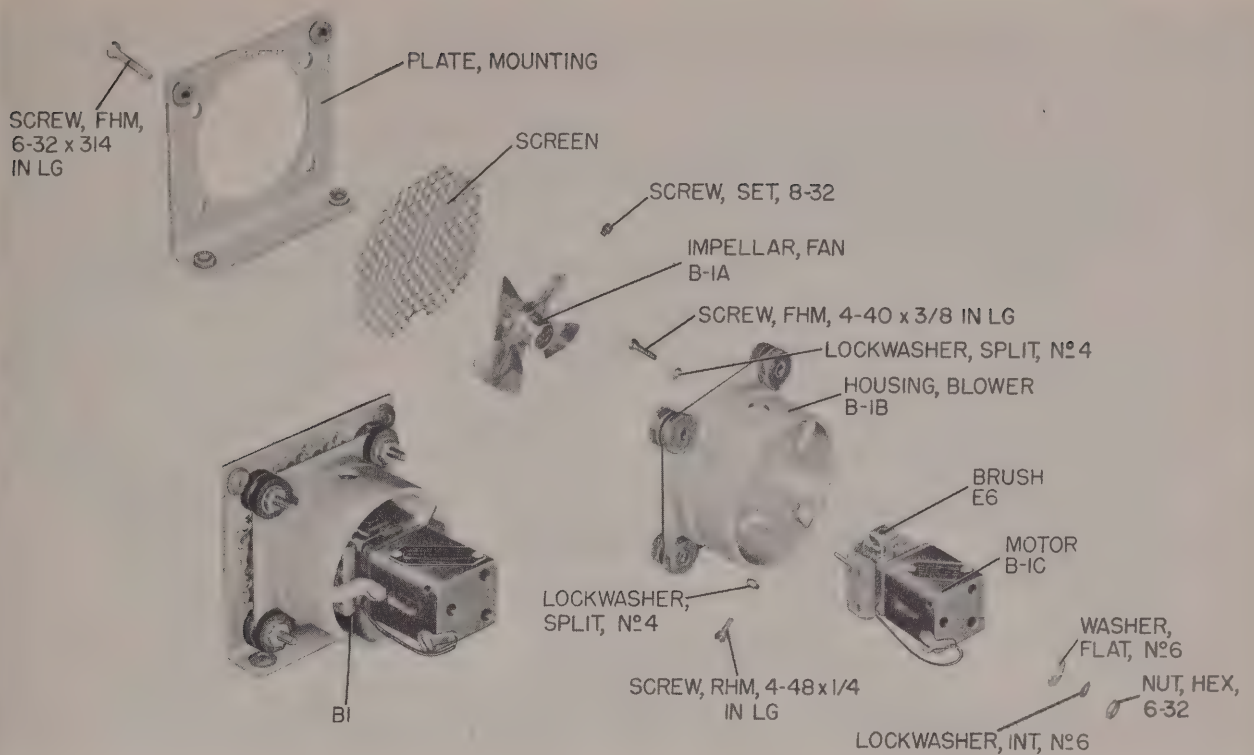

Figure 7-6. Blower Motor Assembly (B1) Exploded View
(1) Unsolder the black wire from the ground lug (see figure 7-6).
(2) Unsolder the other wire from the motor assembly.
(4) Remove the complete blower motor assembly.
(5) Remove the four screws holding the fan housing and screen to the mounting angle bracket.
(6) Loosen the two set screws on the fan through the hole in the blower housing and remove the fan from the motor shaft (see figure 7-6).
(7) Remove three screws holding the motor assembly and carefully remove the motor from the housing (see figure 7-6).
(8) If necessary unsolder both leads of the capacitor from the motor terminals (see figure 7-6). Figure 7-6 is an exploded view of the BLOWER MOTOR ASSEMBLY, and should facilitate the disassembly of the BLOWER MOTOR ASSEMBLY.